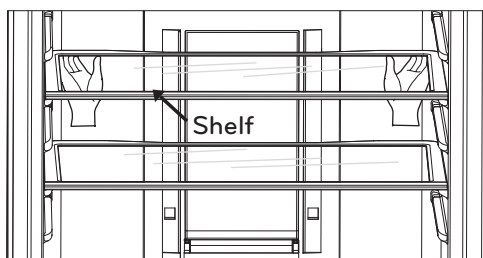

Fig. 9
2. Lift it from the bottom by using the necessary strength Fig. 9.